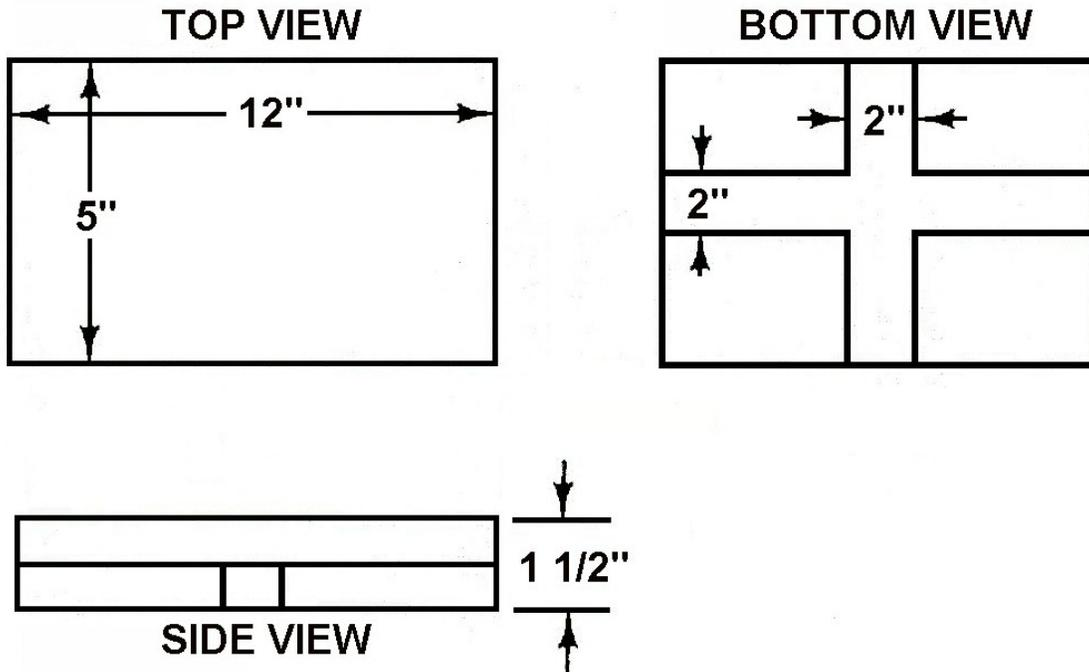

Figure 3-17
Note: Two (2) spacers are required as a minimum (see Figure 3-17).